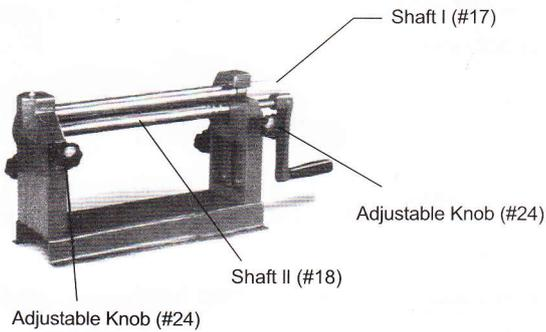

Figure 1-Adjusting the Material Gap
1. To increase the gap between SHAFT 1 (#17) and SHAFT II (#18) to allow for varying thickness of materials, screw out the ADJUSTMENT KNOB (#24). To decrease the gap, screw it in. Make sure to adjust both KNOBS at equal amount .See Figure 1